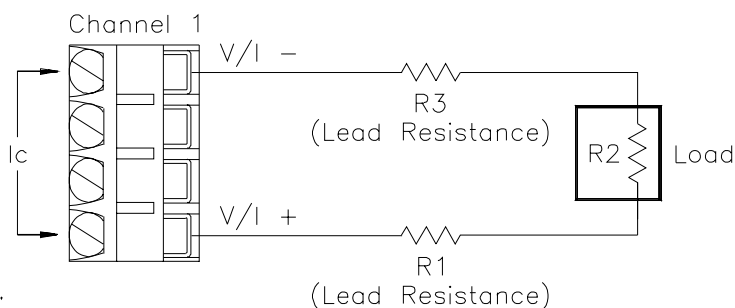

Figure 4-6. Output Current Compliance Voltage
3. Verify that the compliance voltage will not be exceeded by calculating the total circuit resistance using Figure 4-6.
Note The compliance current is 24 mA. The maximum short circuit current (e.g. $R_2 = 0$ in Figure 4-6) is limited to ≤ 30 mA by the Agilent E1328A.